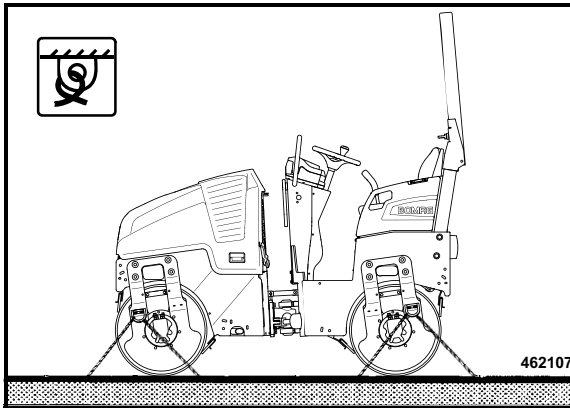

Fig. 109
- Lash the machine to the transport vehicle, use the lashing eyes (Fig. 109) on front and rear frame for this purpose.